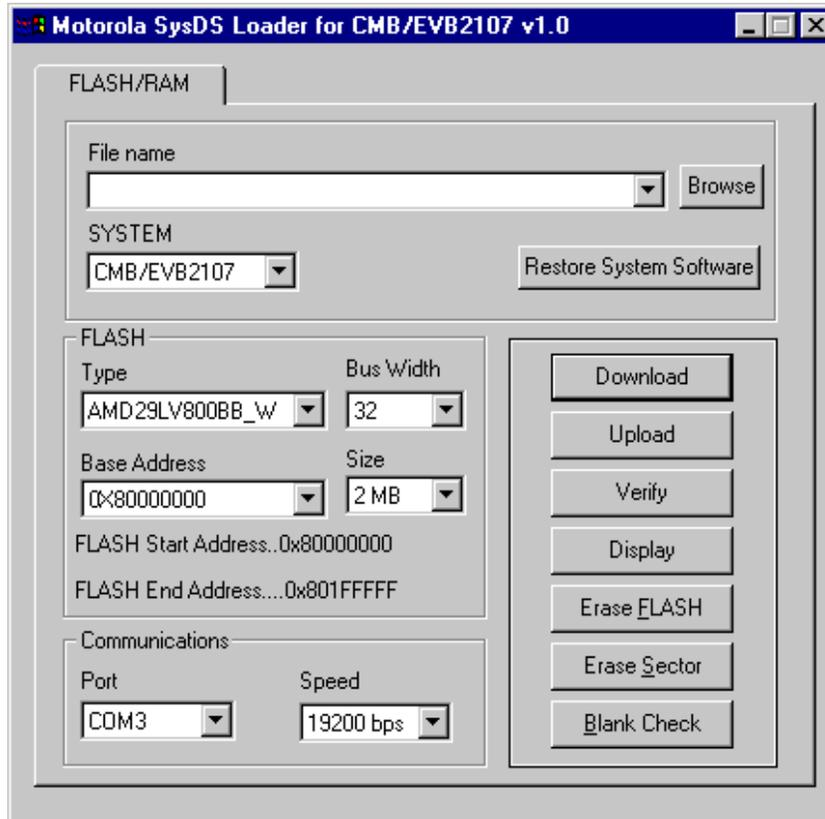

Figure 3-1 SysDS Loader Main Screen
5. Start the SysDS Loader. The main screen (**Figure 3-1**) appears.